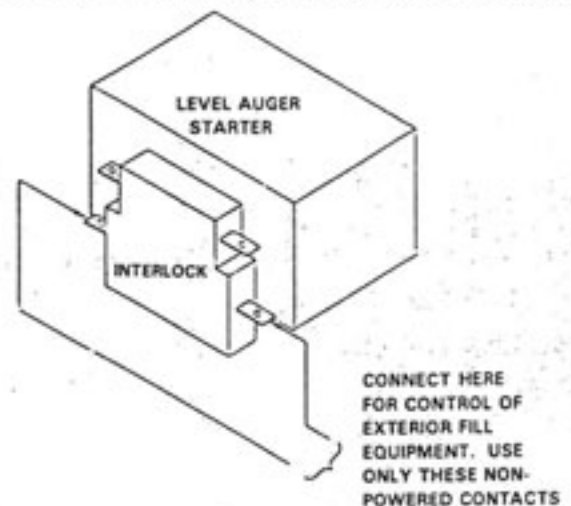

Figure 7B – 570/670/690 & 970 Level Auger & Unload Auger Motor Magnetic Starter Non-Powered Auxiliary Contacts
3. On Models 570/670/690 and 970, which have a level auger, the non-powered auxiliary contacts of the level auger starter are used to control the fill auger motor magnetic starter coil. See Figure 7B.
- On Models 570/670/690 and 970 unload auger magnetic starters have non-powered auxiliary contacts that can be used to control the customer supplied take-away equipment. See Figure 7B.